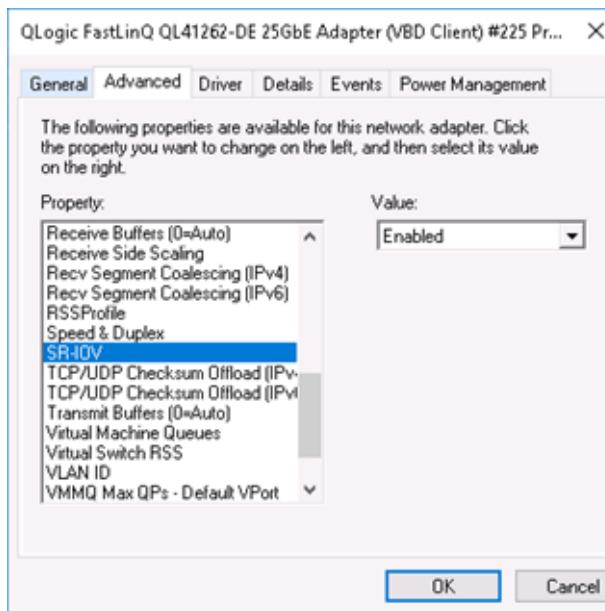

Figure 11-3. Adapter Properties, Advanced: Enabling SR-IOV
- c. On the Advanced properties page (Figure 11-3) under **Property**, select **SR-IOV**, and then set the value to **Enabled**.